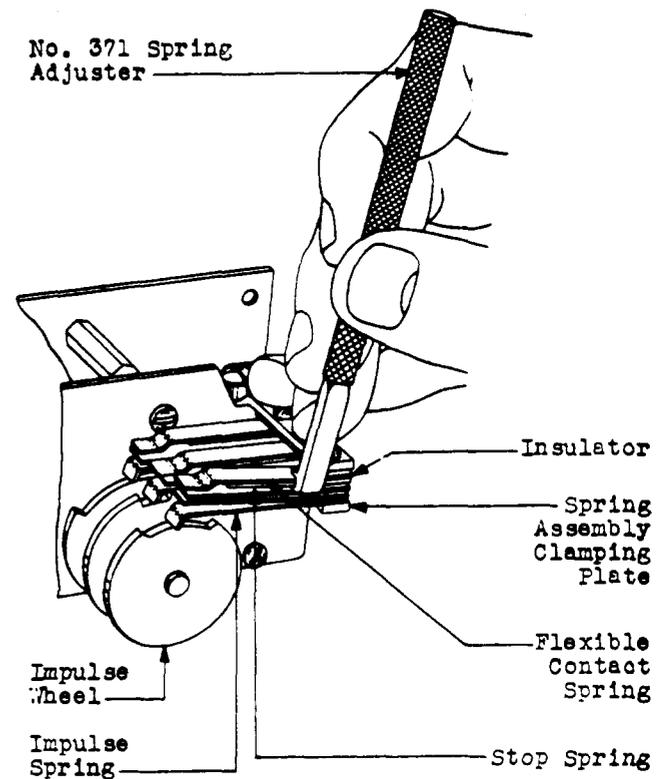

Fig. 11 - Method of Adjusting Contact Springs
(1) In making these adjustments consult the associated circuit drawing and circuit requirement table, and give proper consideration to the maintenance of any requirement for contact sequence which may be specified thereon.
(2) Unless otherwise specified, adjust the springs close to the point where the spring leaves the spring assembly clamping plates and insulators with the No. 105, 303 or 371 spring adjuster as shown in Fig. 11. Use the Nos. 105 and 303 spring adjuster on the light springs and the No. 371 spring adjuster on the heavy springs. In adjusting the springs take care not to kink them. Kinked springs should not be straightened unless the kink interferes with the proper adjustment of the key. Removing kinks tends to weaken the spring and shorten the life of the key.
(3) Contact Alignment: At the time the other spring adjustments are being made, see that the contact points lie wholly within the boundary of the opposing contacts. If necessary, loosen the spring assembly screws with the 3" cabinet screwdriver and shift the springs until each contact point lies wholly within the corresponding contact disc preferably as near the center as possible. Then tighten the screws securely.
(4) If the flexible contact springs do not rest on their stop springs adjust as follows: Insert a piece of No. 22 bare tinned copper wire between the flexible spring and stop spring. Place the No. 485A pliers over the stop spring and flexible spring and compress the pliers. When the contacts are fully made, the flexible contact springs should be held slightly away from the stop springs. This indicates that the contacts have a follow which insures sufficient contact pressure.